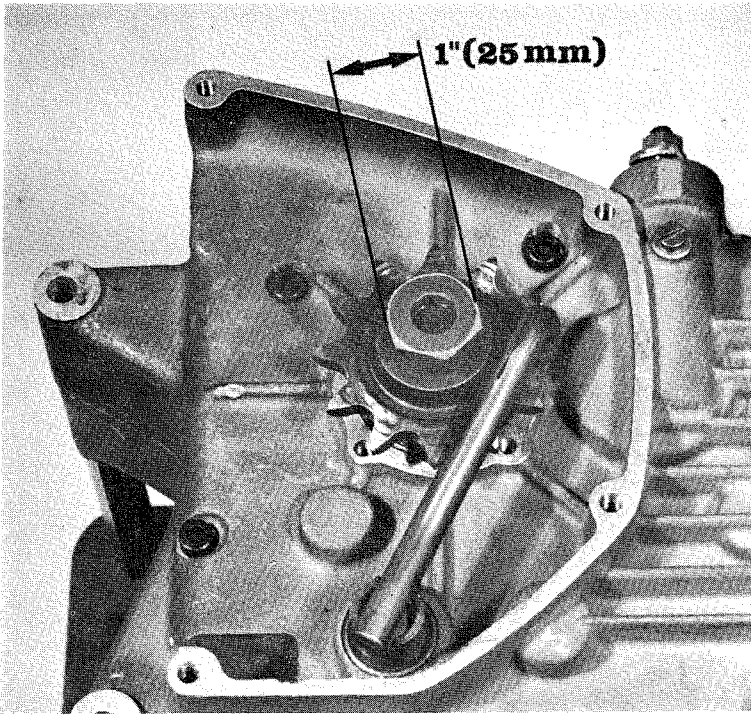

Fig. 30
30. Fit the charin sprocket, using tool No. 15 19 278-01 and 1" (25 mm) spanner. See Fig. 30. Tightening torque: 50 lb. ft. (7 kpm)